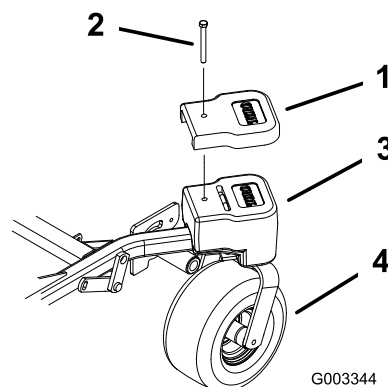

Figure 28
4. Install the top weights on top of each caster weight for 153 cm (60 inch) mowers with 2 bolts (1/2 x 2-1/2 inches) (Figure 28).